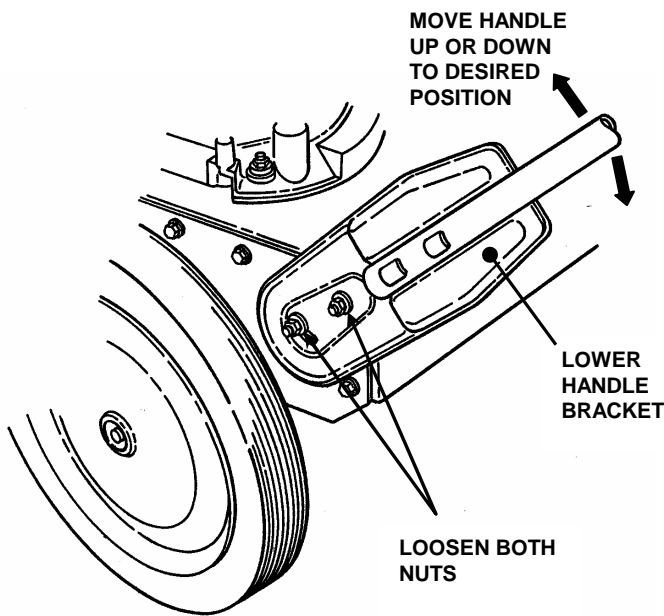

FIGURE 2.6
1. Loosen the nuts on each lower handle bracket as shown in Figure 2.6.